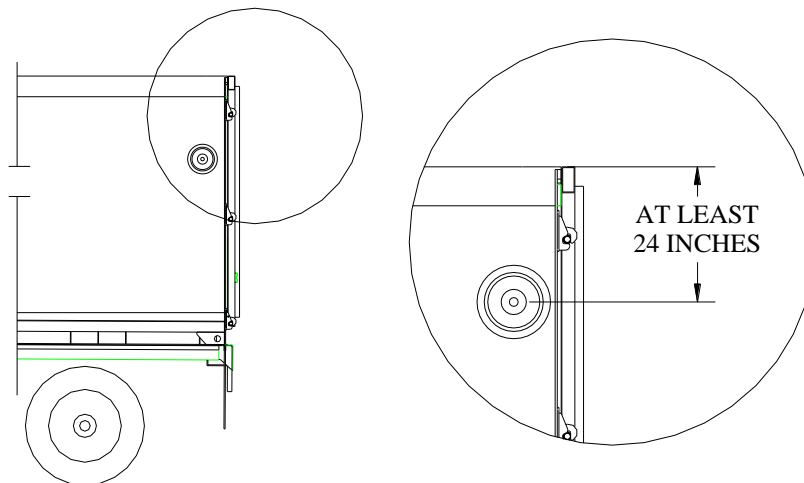

Figure 2
2. Determine where to mount the tarp return. There are many possible mounting positions. Recommended locations are: 24 - 48" down the side wall of the trailer (see figure 2), or on the back face of a solid rear end cap (if your system is so equipped, see figure 3).